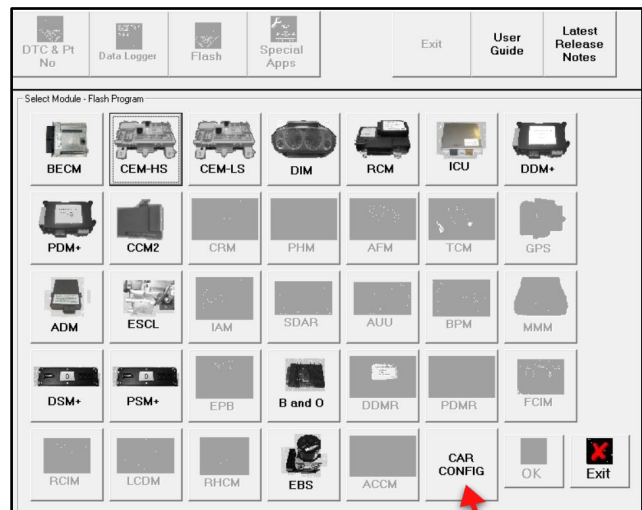

Figure 1
4. Click “CAR CONFIG” (refer to Figure 1).